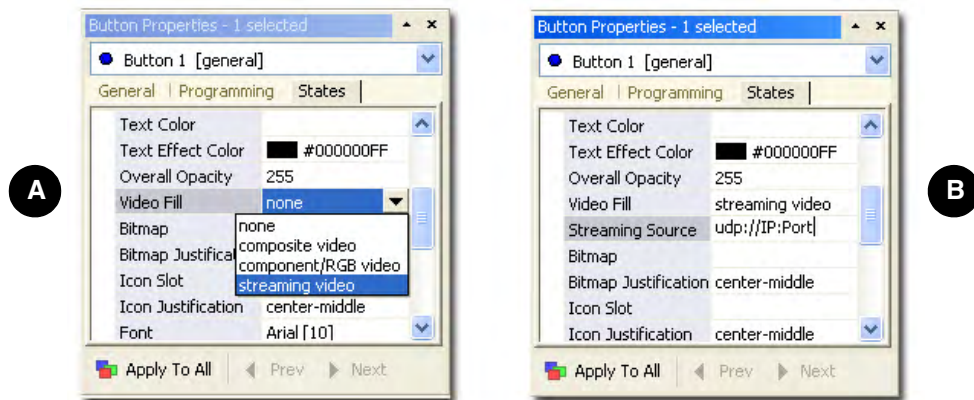

FIG. 45 Video Fill - Button Properties setting
- Double-click the **All States +** symbol to expand this folder (FIG. 45) and locate the *Video Fill* field.
- Use the *Video Fill* drop-down arrow to select the **Streaming Video** option (**A** in FIG. 45).
- Within the newly added *Streaming Source* field, enter the Transport Protocol, IP Address of the MAX-CSE, and Target Video Port (**B** in FIG. 45).